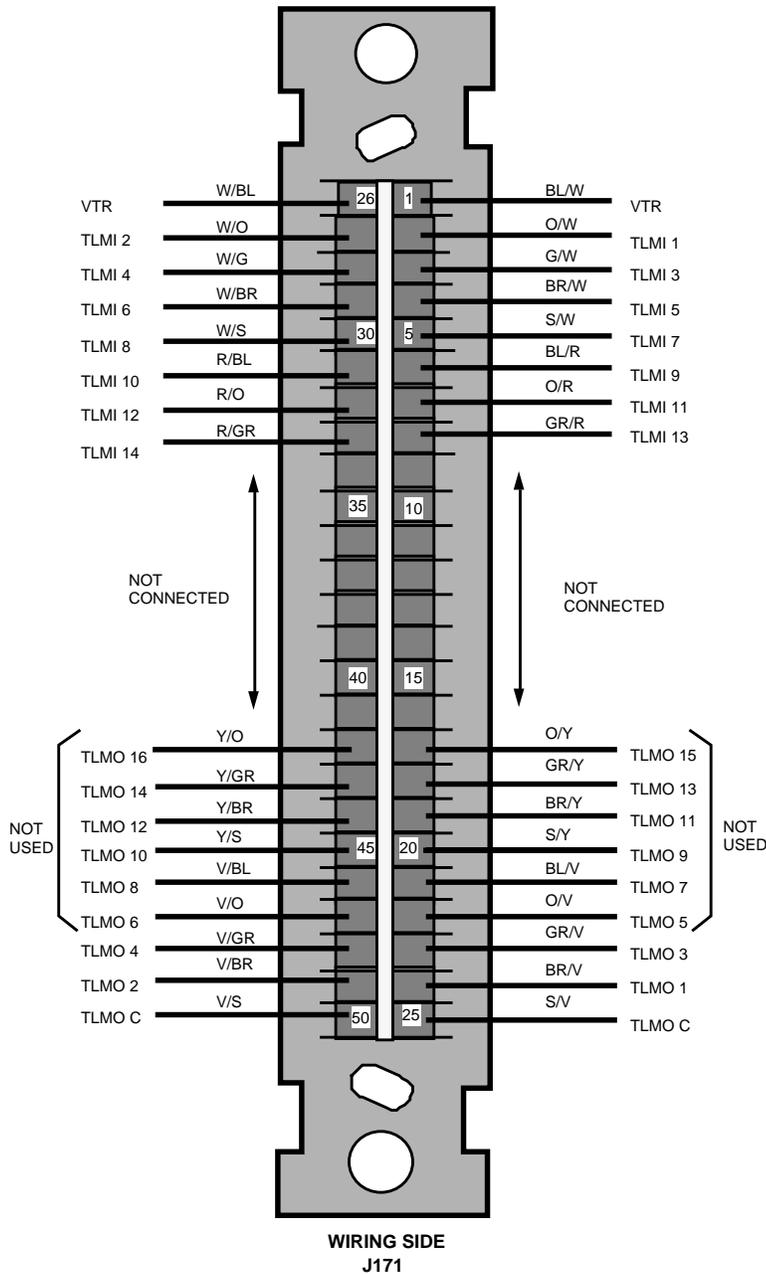

Figure 3-24. Discrete Alarm Connections
- Step 2:* Terminate the pairs at the MDF and label the leads in accordance with Figure 3-24.